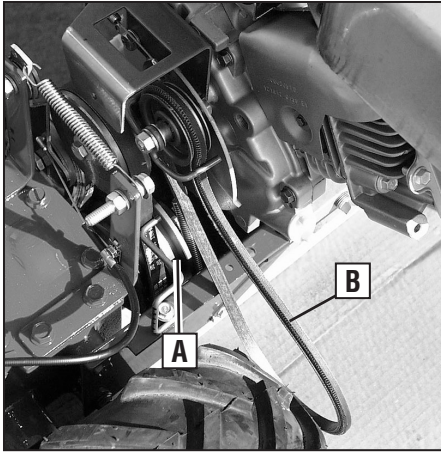

Figure 5-16
3. Move the reverse clutch belt (B, Figure 5-16) out of the way. You do not need to completely remove the belt. Press the reverse idler pulley inward for slack and then slip the bottom half of the belt completely off the transmission pulley (A, Figure 5-16). Pull the bottom half of the belt out of the housing and let it hang off the outside of the unit (B).